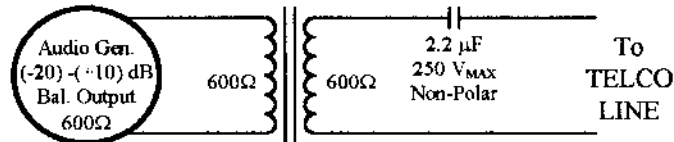

Figure 8-1: Audio Generator With Isolation
2. Audio Oscillator with isolation circuit as illustrated in Figure 8-1: